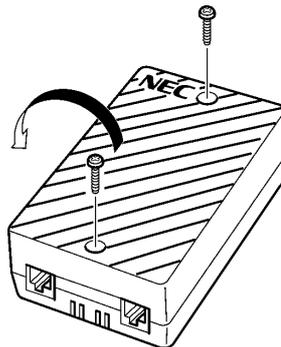

Figure 6-3: Removing the Screws from the SLT(1)-U13 ADP
1. Remove the two screws from the top to open the SLT adapter as shown in Figure 6-3: Removing the Screws from the SLT(1)-U13 ADP.